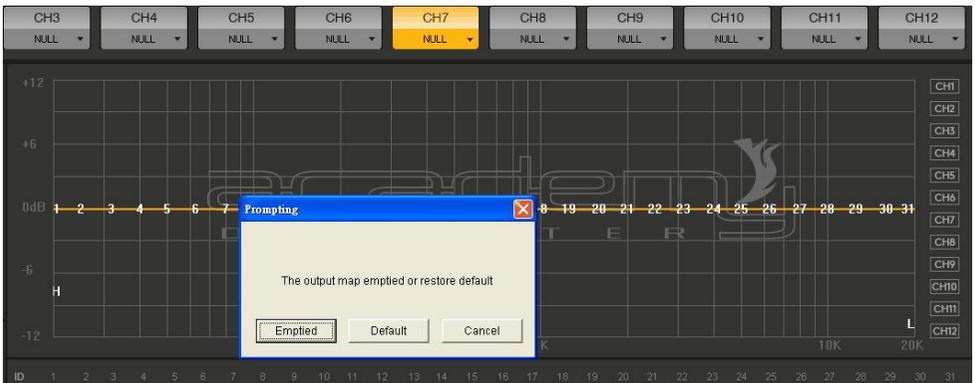

Figure 3.3.4
**The third step**, after the user has configured all of the output signal path, click on the right side of Figure 3.3.4 "Lock Output Configuration" to lock the configured output channel speaker sound field position. So that users and then in the bottom of each channel label, click on the type of drop-down menu box, type options will not pop up.
**Straight balanced:** the button shown in Figure 3.3.4, the current channel as long as there is an equalizer in the open state, this button will appear highlighted in green state, indicating that you can click this button to make all the equalizer current channel change to not start moving (directly). Click the button that will return to "restore the balance." Then click on "restore the balance" button will allow all current equalizer channel back to the last activated state.
**Reset balanced:** the button shown in Figure 3.3.4, click this button to make all current channel equalizer parameters return to the initial state: uniform distribution of frequency, Q value is 1.2, a gain of 0dB.